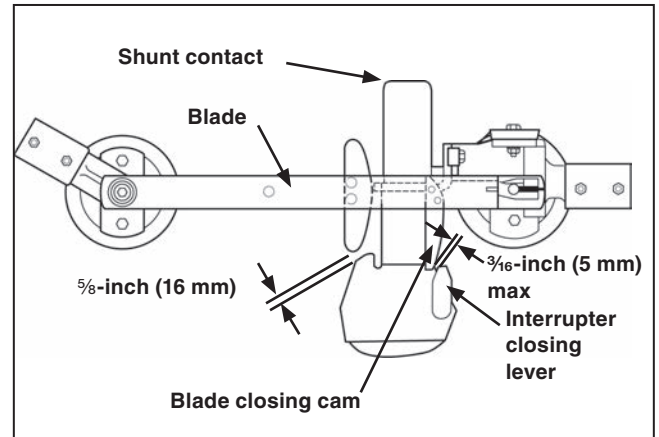

Figure 41. Blade assembly in the fully Closed position.
- (c) In the fully **Closed** position, clearance between the blade closing cams and the interrupter closing levers must be within the limit shown. See Figure 41.